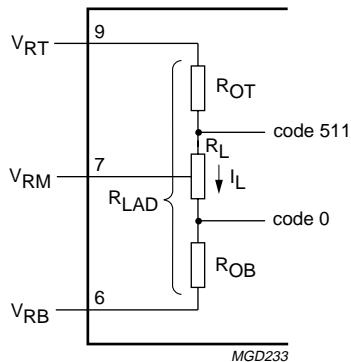

Fig.3 Explanation of note 3.
3. In order to ensure the optimum linearity performance of such converter architecture the lower and upper extremities of the converter reference resistor ladder (corresponding to output codes 0 and 511 respectively) are connected to pins  $V_{RB}$  and  $V_{RT}$  via offset resistors  $R_{OB}$  and  $R_{OT}$  as shown in Fig.3.